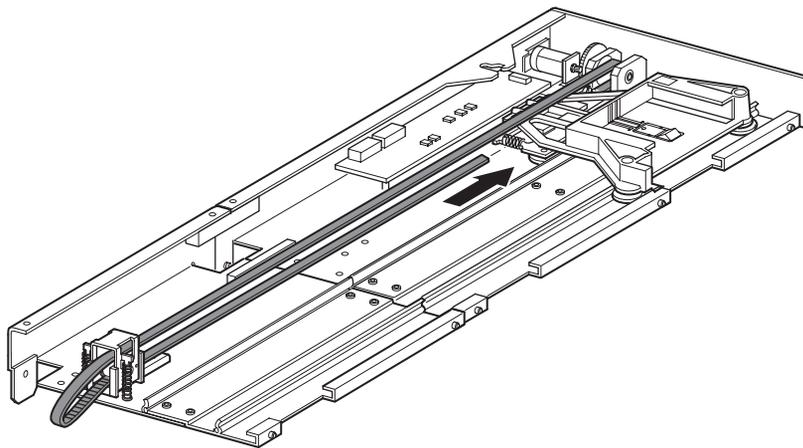

Figure 2–21: Installing the timing belt
4. Position the media elevator car over the belt block access cutout (see Figure 2–14).